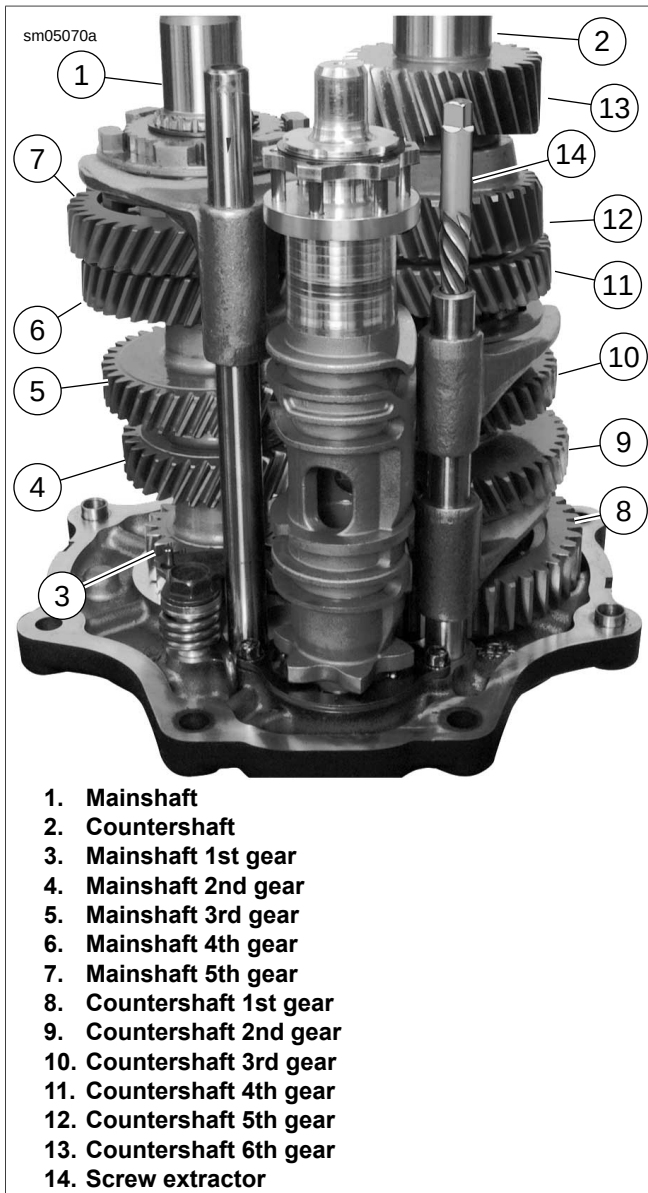
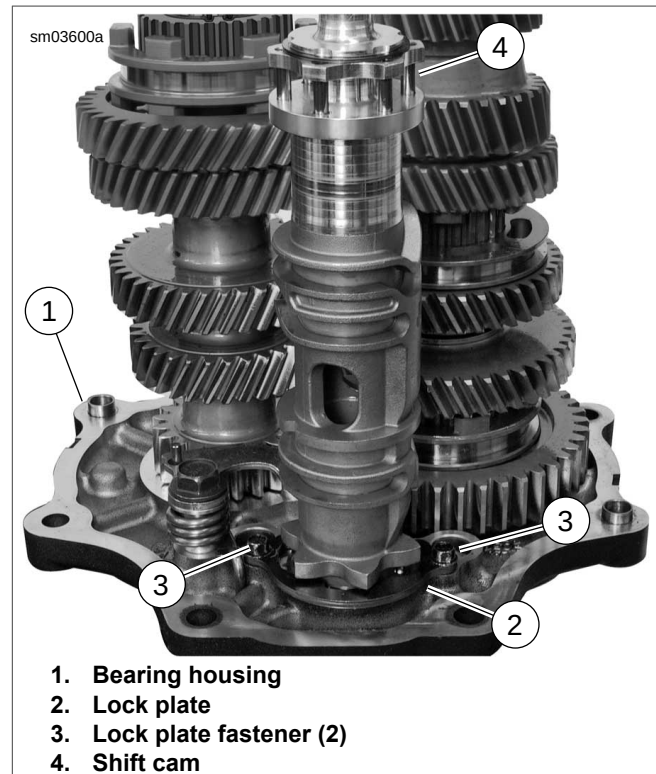

Figure 6-12. Gear Set
Figure 6-13. Shift Drum
- See Figure 6-12. Disassemble bearing housing assembly:
- Remove shift fork shafts using easy-out screw extractor (14) (non-flute design) or vise grips. Shafts have slight interference fit. Shafts can be reused; do not damage end of shaft.
- See Figure 6-13. Remove lock plate fasteners (3) from lock plate (2). Discard fasteners.